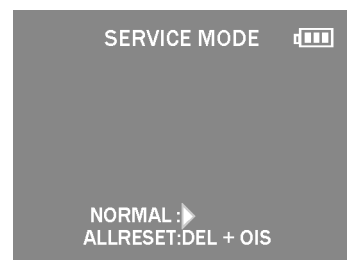

Fig. 3-6
3. Do not press any buttons/keys until the default menu (Fig.3-6) is displayed on the LCD monitor. Otherwise, adjustment data may not be stored properly.